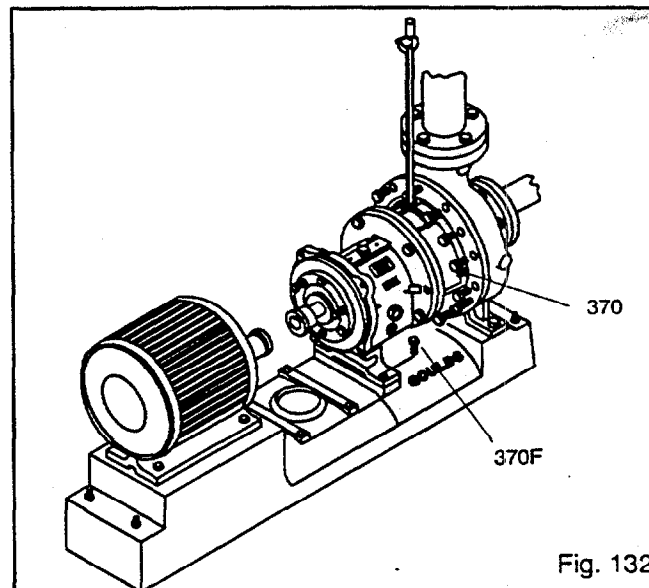

Fig. 132
4. Install casing bolts (370), finger tight. Casing bolts (370) may be coated with anti-galling compound to aid disassembly. Tighten the casing bolts per Table 9 torque values, page 51. Install casing jack screws (418), snug tight (Fig. 132).